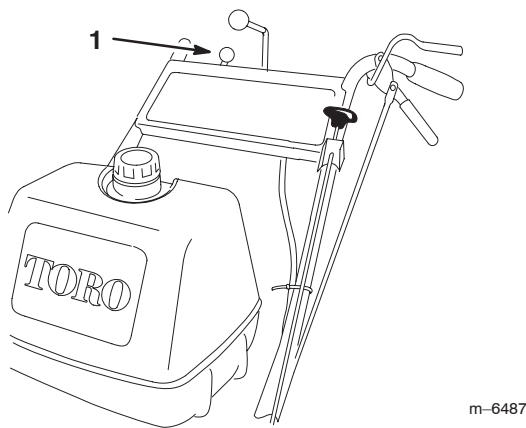

Figure 20
1. Move the throttle lever to slow (Fig. 20).
5. To stop the engine, pull the throttle all the way back to stop (Fig. 20).
4. Stop the engine by pulling the throttle all the way back to stop (Fig. 20).